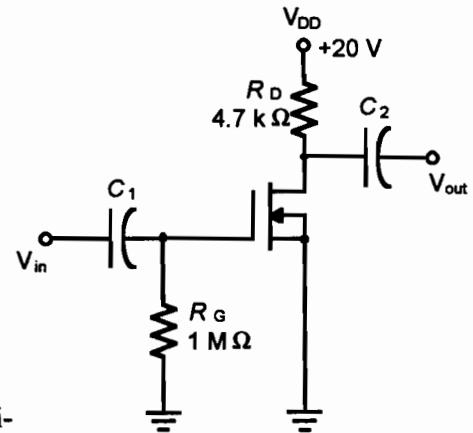

Figure 34.1
1. Build the zero-biased D MOSFET common-source amplifier circuit shown in Figure 34.1. Set the DC power supply for a  $V_{DD}$  of 20 V.
3. If  $R_G$  of the circuit of Figure 34.1 were open, only the MOSFET circuit DC parameters would be affected.
4. For the circuit of Figure 34.1, an enhancement MOSFET could be substituted for the 2N3796 with no change in AC parameters.